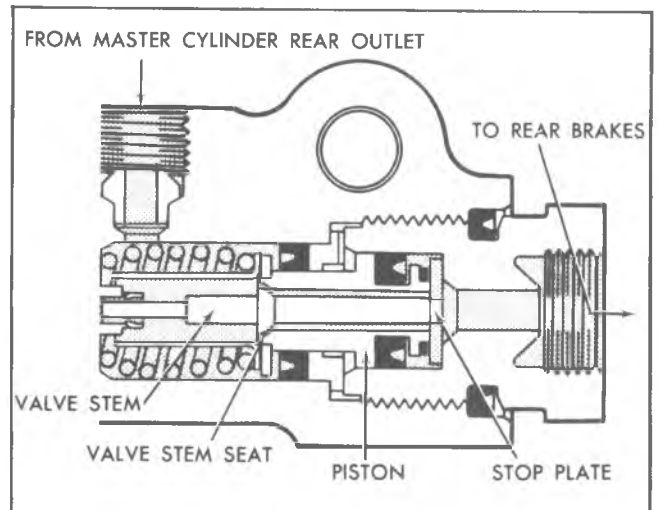

Fig. 15--Normal Brake Stop
**Normal Brake Stops (Fig. 15)**